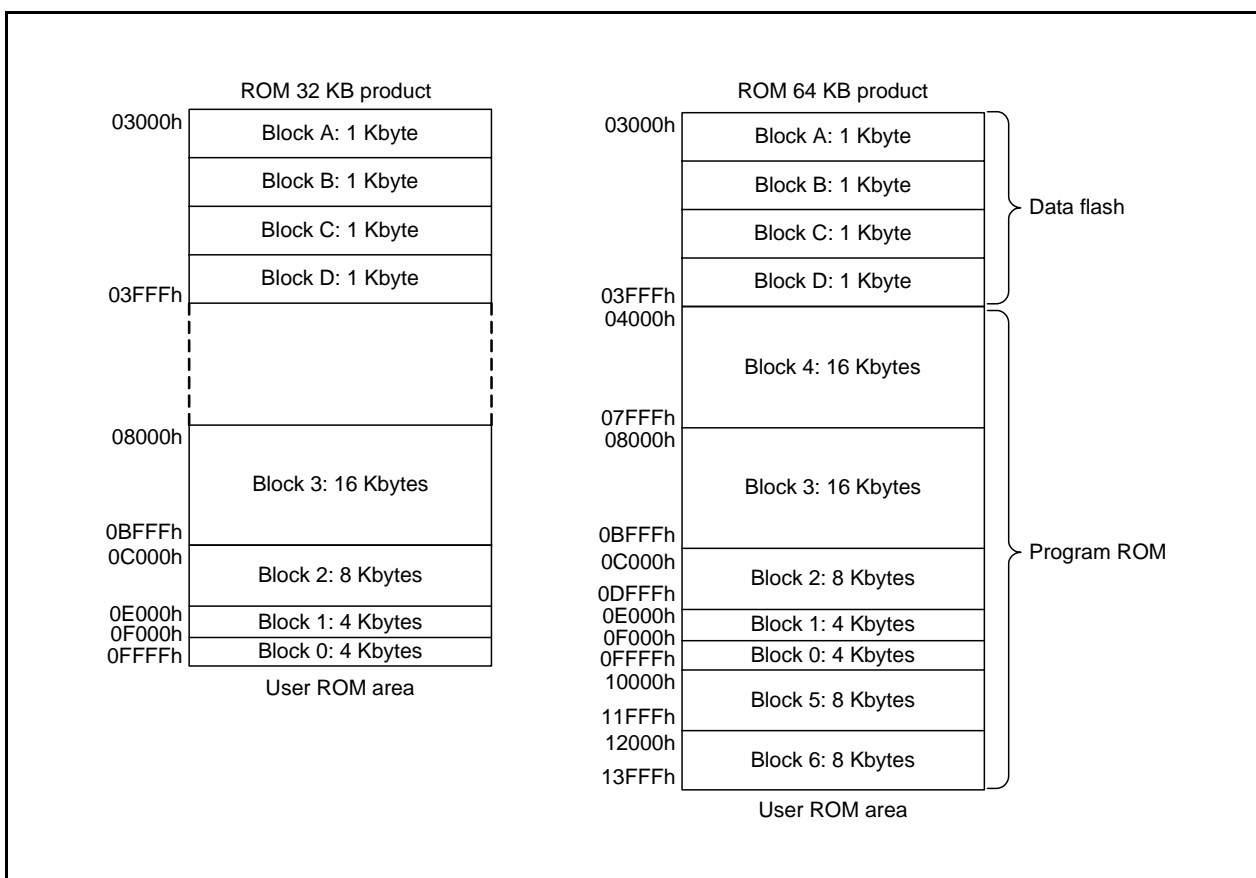
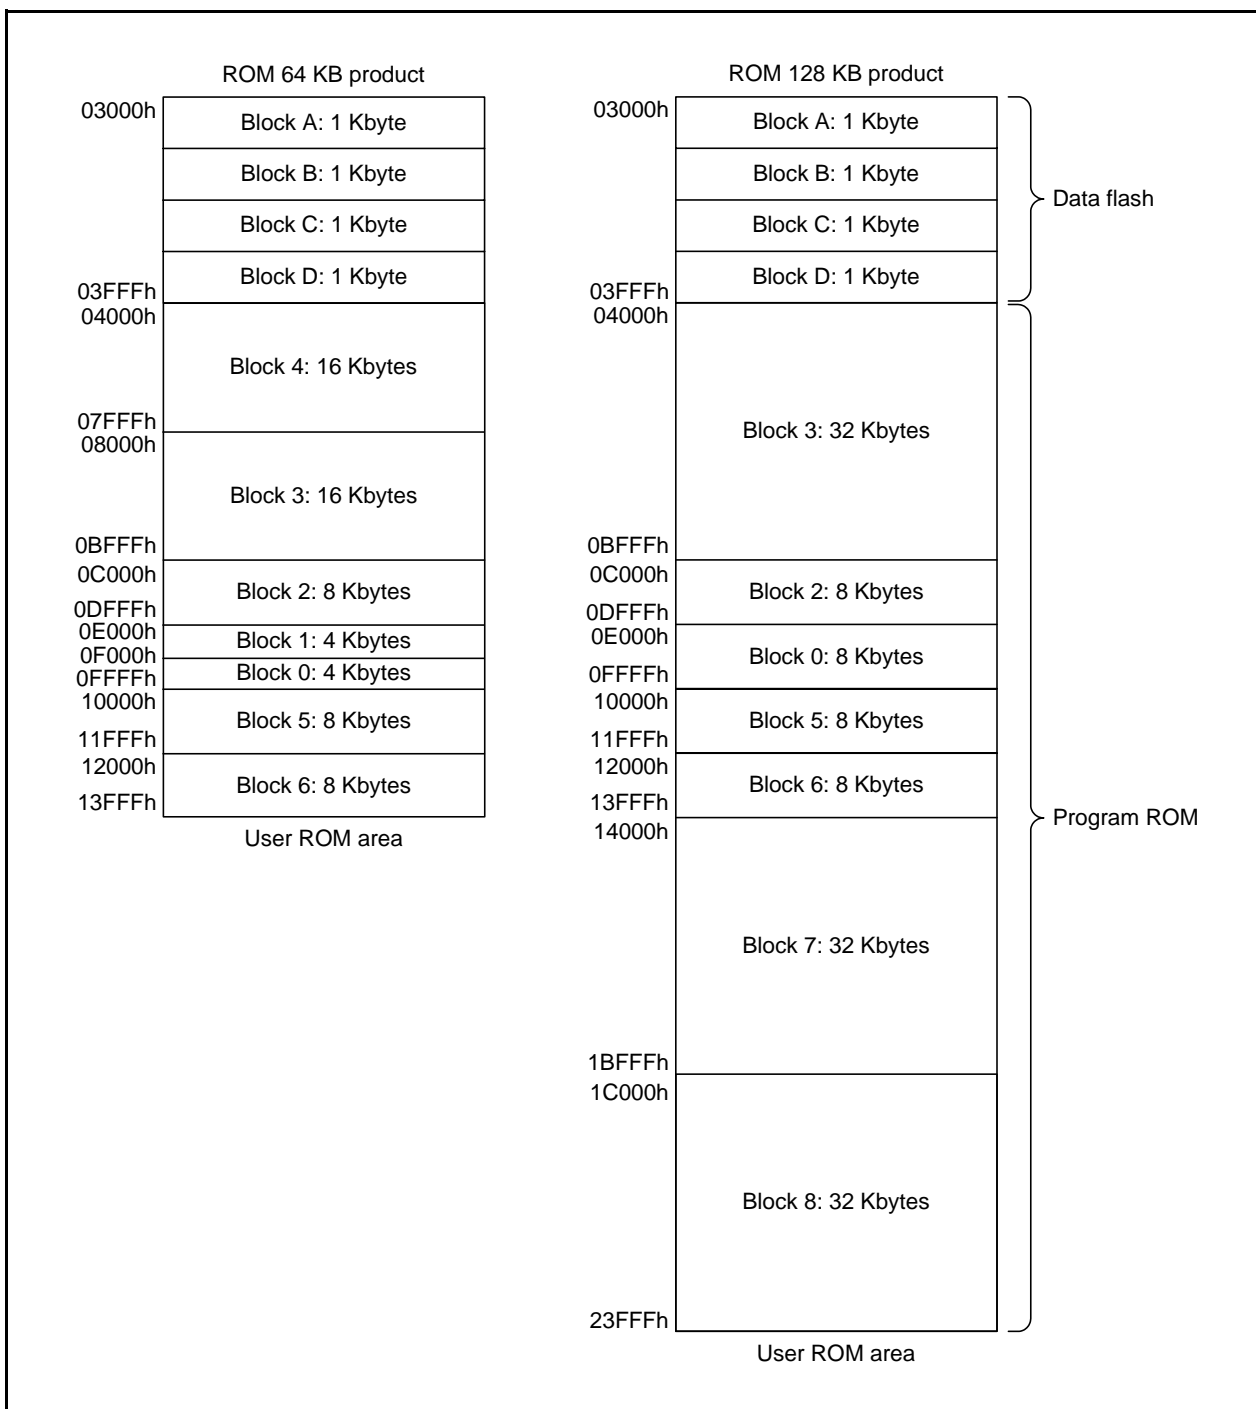

Figure 30.1 Flash Memory Block Diagram of R8C/34U Group
Figure 30.2 Flash Memory Block Diagram of R8C/34K Group
- The number of blocks and block division vary with the MCU. Refer to **Figures 30.1 and 30.2 Flash Memory Block Diagram of Each Group** for details.
Figure 30.1 shows Flash Memory Block Diagram of R8C/34U Group, and Figure 30.2 shows the Flash Memory Block Diagram of R8C/34K Group.